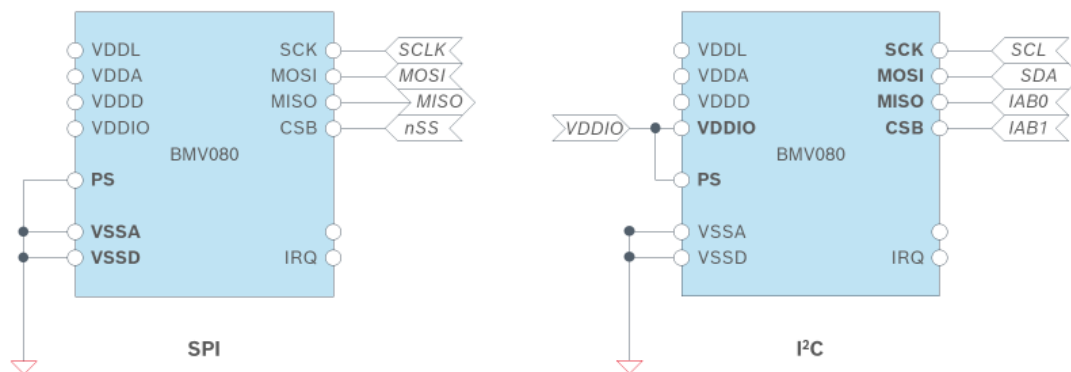

Figure 31: Configurations to select communication interface (SPI / I2C)
- The protocol select (PS) pin is a logic input to configure the type serial interface, SPI, or I2C
- Figure 31 shows how the PS pin can be connected to select SPI or the I2C protocol